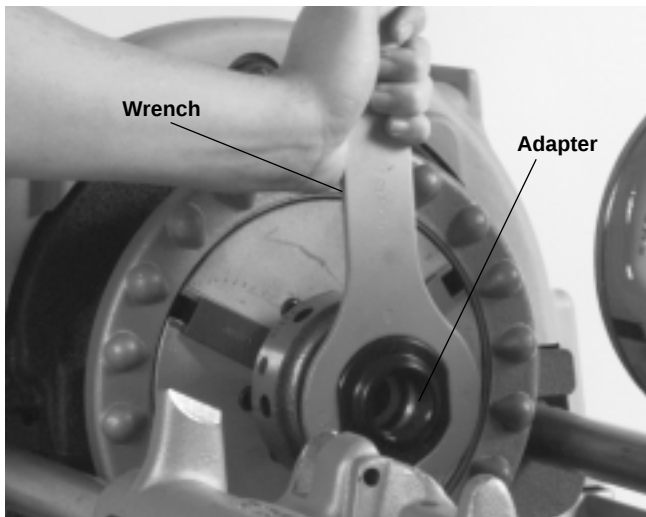

Figure 20 – Installing Nipple Chuck Body
2. Place nipple chuck body (Figure 20) in Threading Machine chuck, gripping jaw grooves. Tighten chuck with snap spin of handwheel.
into nipple chuck (Figure 20) by hand. Tighten with wrench provided with nipple chuck.